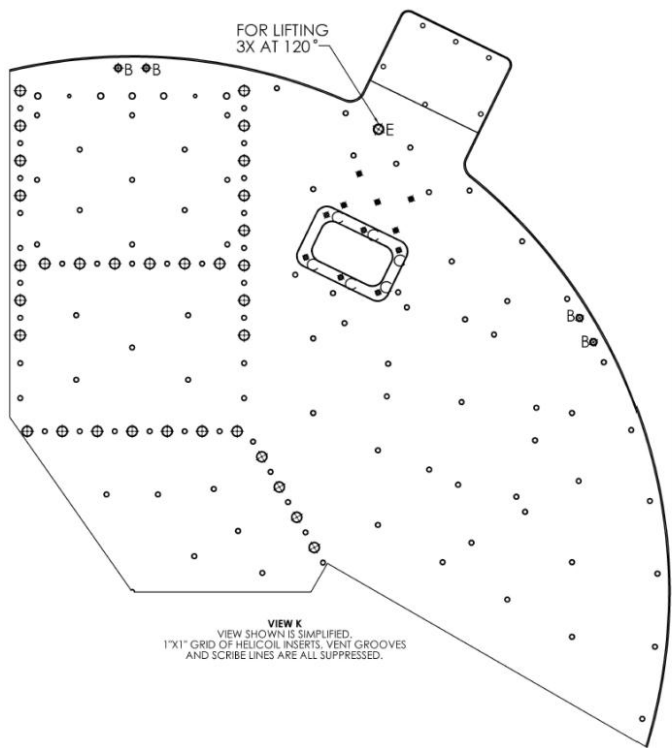

Fig 6.1
- Place D0901516 on granite table using level blocks, ribbed side down Figure 6.1
see Appendix C for p/n and illustration for 3/8 x 1" dowel pin Qty. 30 as shown on Figure 6.1. Hole labeled D is 5/8"-11 for lifting Fig 7.1.